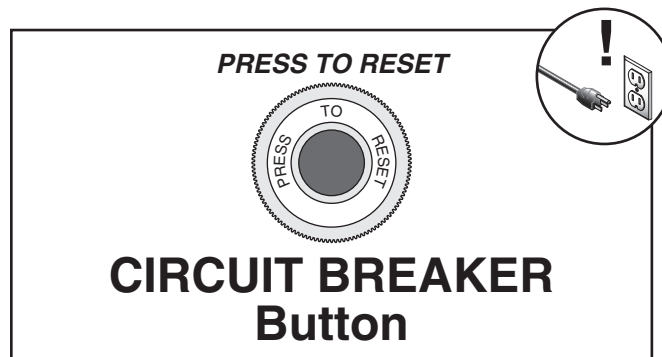

Figure 3. Resetting circuit breaker.
3. Press center circuit breaker button in until it locks in place (see **Figure 3**).